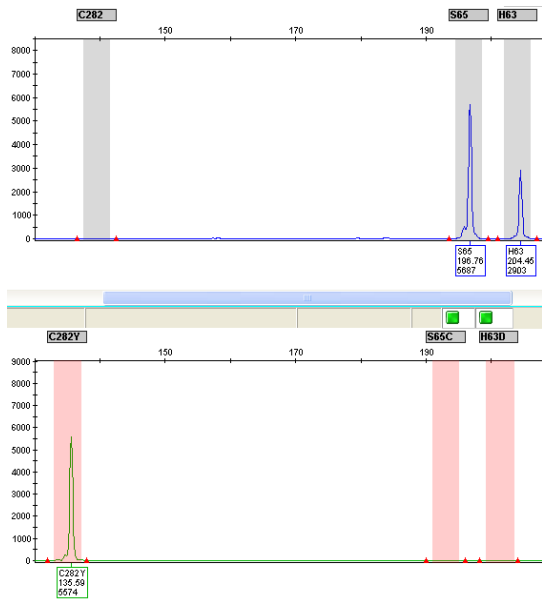

Figure 2. Homozygous mutation in codon 282.
**Homozygous mutation:** A sample is considered to be homozygously mutated for a specific codon when the mutation specific signal in the GREEN channel is within the acceptable length and fluorecence criteria ranges and no BLUE signal higher than 150 rfu for the same codon is detected in the sample. See Figure 2 for example.